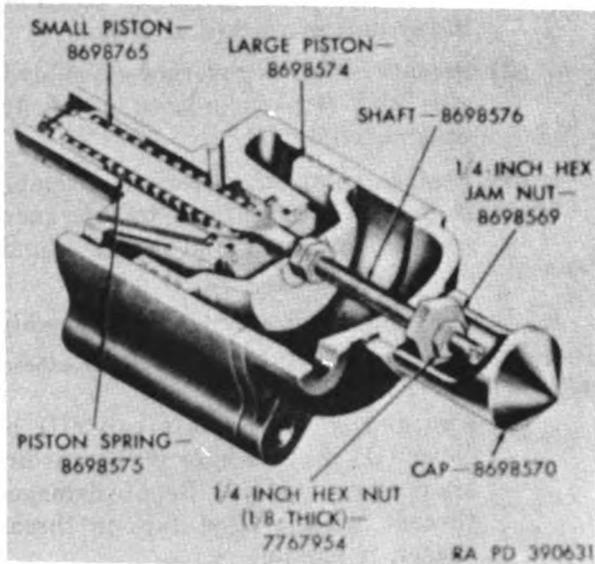

Figure 127. Fuel injector oil booster pump assembly—cutaway view.
- (1) Position small piston (C) on large diameter end of shaft (E) and secure with  $\frac{1}{4}$ -inch castellated hex nut (A). Secure nut with  $\frac{1}{16}$  x  $\frac{1}{2}$  cotter pin (B).
- (2) Slide piston spring (D) over other end of shaft and into bore of small piston as shown in figure 127.
- (3) Position two new  $\frac{3}{8}$ -inch id "O" ring packings (K) in bore of shaft adapter (L) and a new  $\frac{5}{16}$ -inch id "O" ring packing (H) in groove in outer diameter of adapter.
- (4) Install adapter and 1.0900-inch tab washer (J) in housing (F) as shown in figure 127. Tighten adapter securely and bend up tabs of washer to secure adapter.